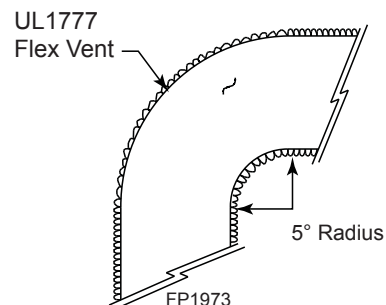

Figure 31 - Minimum Radius for Flex Vent Section
3. Do not allow the flexible vent to bend in radius tighter than 5°. *Figure 31*